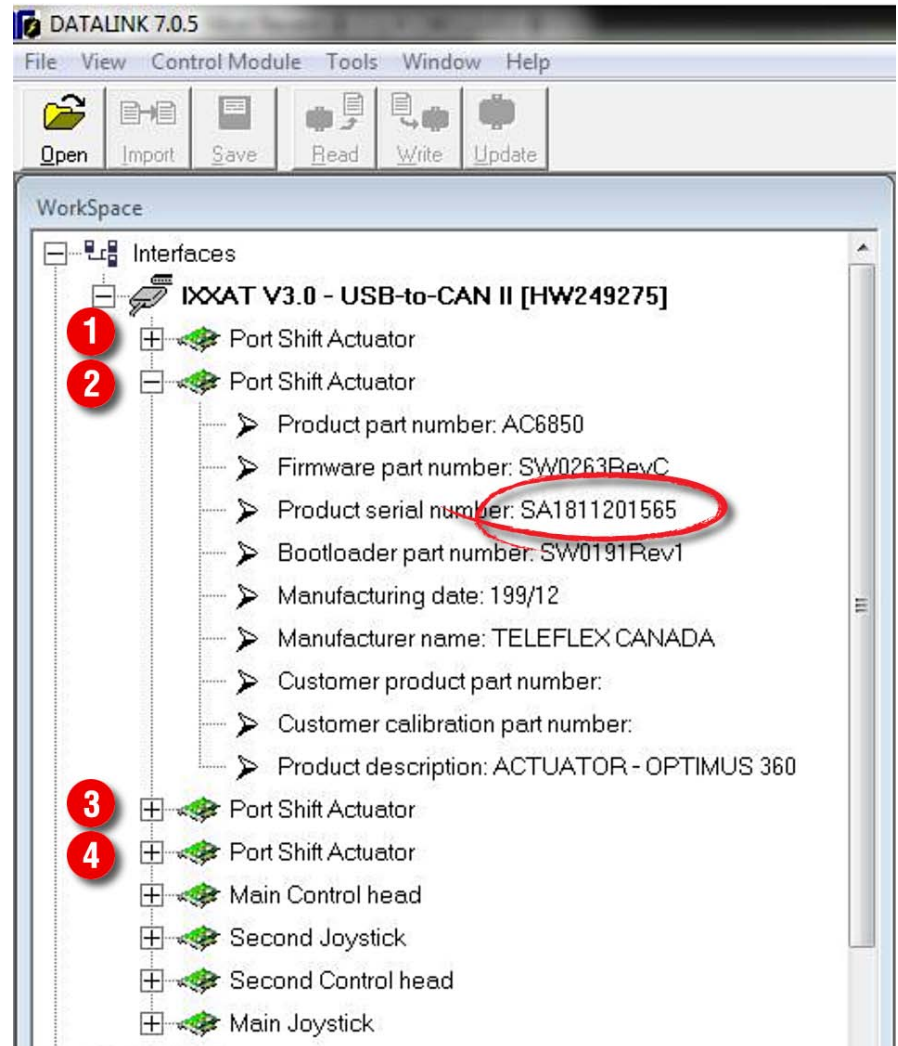

Figure C-3. Shift/Throttle actuator configuration.
1. In the Datalink workspace you should see two Port Shift Actuators for each engine, as shown in figure C-3 below. Click on the + beside an actuator to view the part and serial number information associated with it.